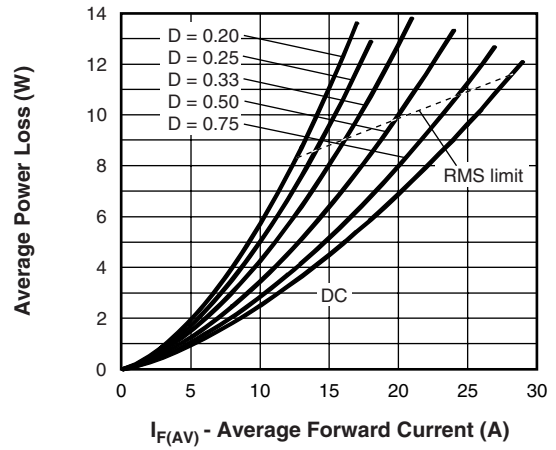

Fig. 6 - Forward Power Loss Characteristics
- (1) Formula used: $T_C = T_J - (P_d + P_{d_{REV}}) \times R_{thJC}$;
- P_d = Forward power loss = $I_{F(AV)} \times V_{FM}$ at $(I_{F(AV)}/D)$ (see fig. 6);